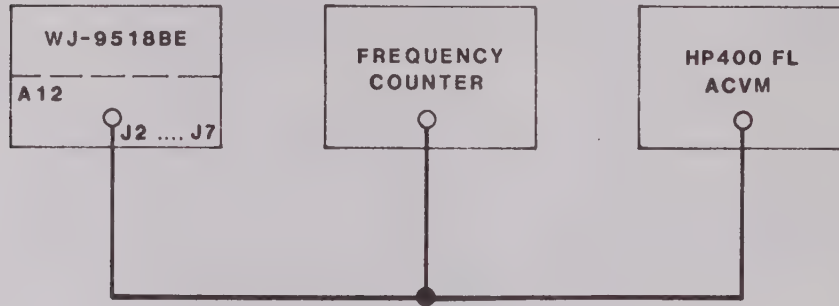

Figure 4-2. Reference Generator Performance Test, Equipment Connections
1. With rear panel switch S3 in the internal (INT) position, connect the test equipment as illustrated in **Figure 4-2**. Note: The unit should be on at least 30 minutes to allow the TCXO frequency to stabilize. Measure the frequency and output level at J2 through J8. The output should be 1 MHz (± 3 Hz) at 1.5 Vrms (± 200 mV).